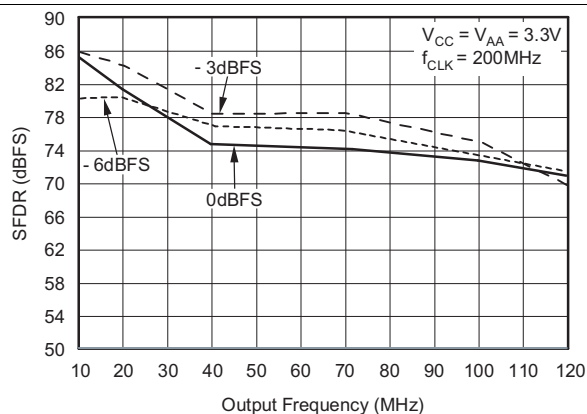

Figure 9. Spurious-Free Dynamic Range vs Frequency
(1) Noise averaged up to 400MHz when operating at 400MSPS.
(2) See Figure 9.